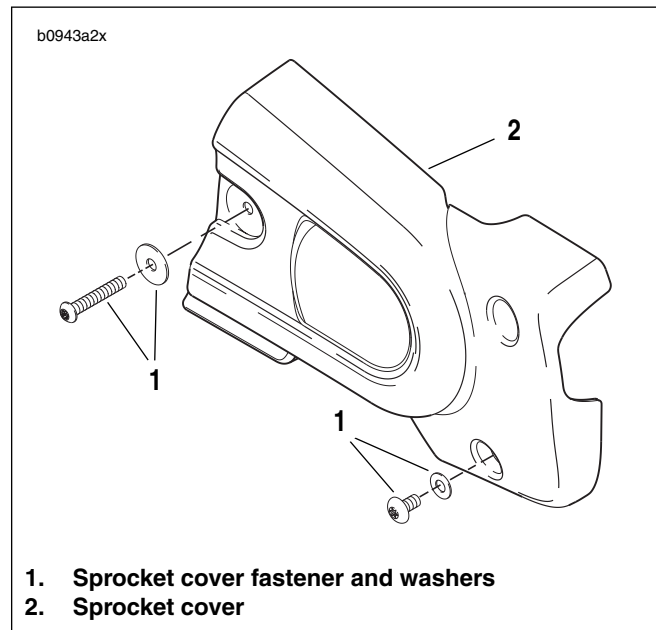
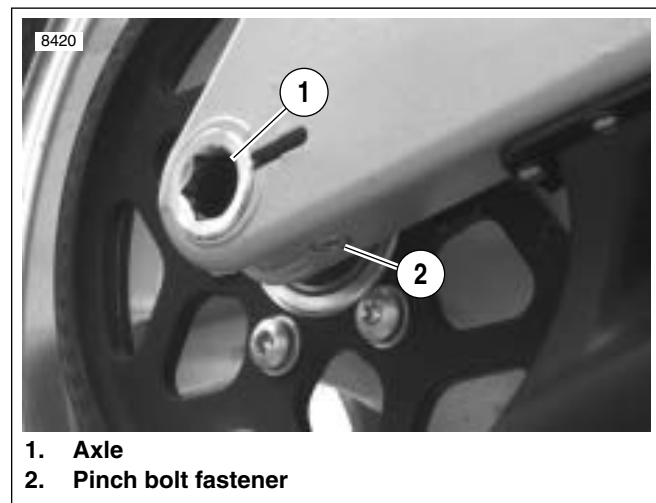

Figure 6-37. Sprocket Cover
Figure 6-38. Rear Wheel Mounting, Right Side
4. See Figure 6-37. Remove front sprocket cover (5) by removing fasteners. See 2.31 SPROCKET COVER.
5. See Figure 6-38. Loosen rear axle pinch fastener (2).
6. Loosen rear axle (1) approximately 15 rotations to allow partial tension to be removed from rear drive system.
8. See Figure 6-38. Tighten rear axle (1) to 23-27 ft-lbs (31.2-36.6 Nm), back off two full turns and then retighten to 48-52 ft-lbs (65.1-70.5 Nm).
9. Tighten rear axle pinch fastener (2) to 40-45 ft-lbs (54-61 Nm).
10. See Figure 6-37. Install front sprocket cover (2) by tightening fasteners to 2-36 in-lbs (1-4 Nm). See 2.31